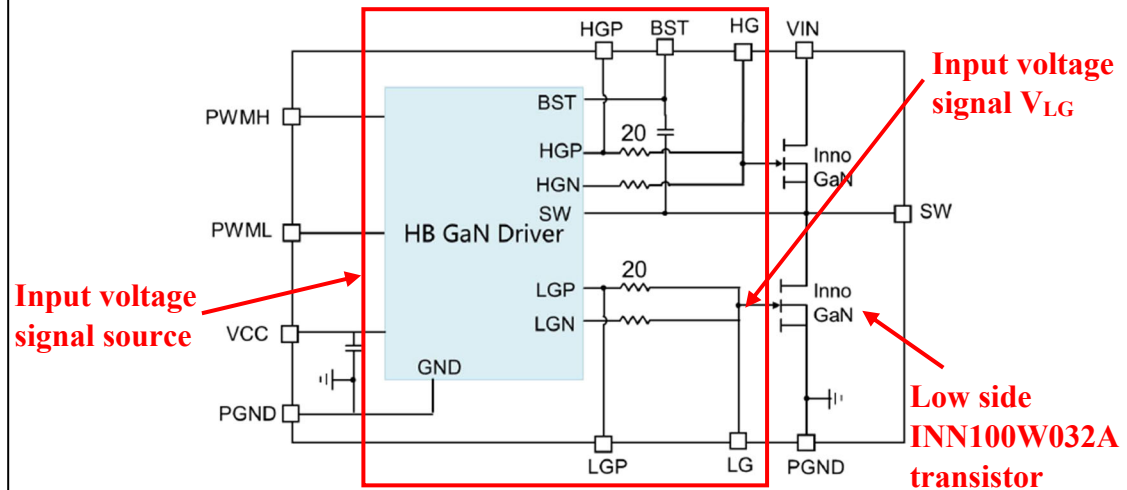

Figure 1. Block diagram of ISG3201
13. Block Diagram Block Diagram of ISG3201 is shown as Figure 1. A half-bridge GaN driver and two 100V GaN HEMTs are integrated. Besides, V_{cc} decoupling capacitor, Bootstrap capacitor, internal 20Ω turn-on resistor for both GaN HEMTs are also integrated. Turn-on speed can be adjusted by an optional resistor between HGP(LGP) pin and HG(LG) pin for top (bottom) GaN HEMT. Merged cascode transistor circuit  Figure 1. Block diagram of ISG3201 INN100W032A (merged cascode transistor) See Ex. 31 at 9 (ISG3201 Datasheet, annotations added)
Block Diagram of ISG3201 is shown as Figure 1. A half-bridge GaN driver and two 100V GaN HEMTs are integrated. Besides, Vcc decoupling capacitor, Bootstrap capacitor, internal 20Ω turn-on resistor for both GaN HEMTs are also integrated. Turn-on speed can be adjusted by an optional resistor between HGP(LGP) pin and HG(LG) pin for top (bottom) GaN HEMT.